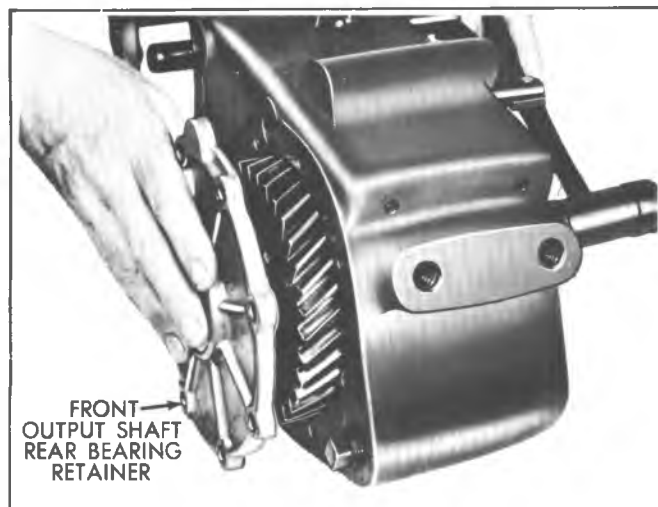

Fig. 7E-3R--Removing Front Output Shaft Rear Bearing Retainer
5. Remove shift rails (Fig. 7E-7R), upper (range) rail first, then lower (4-wheel) rail.